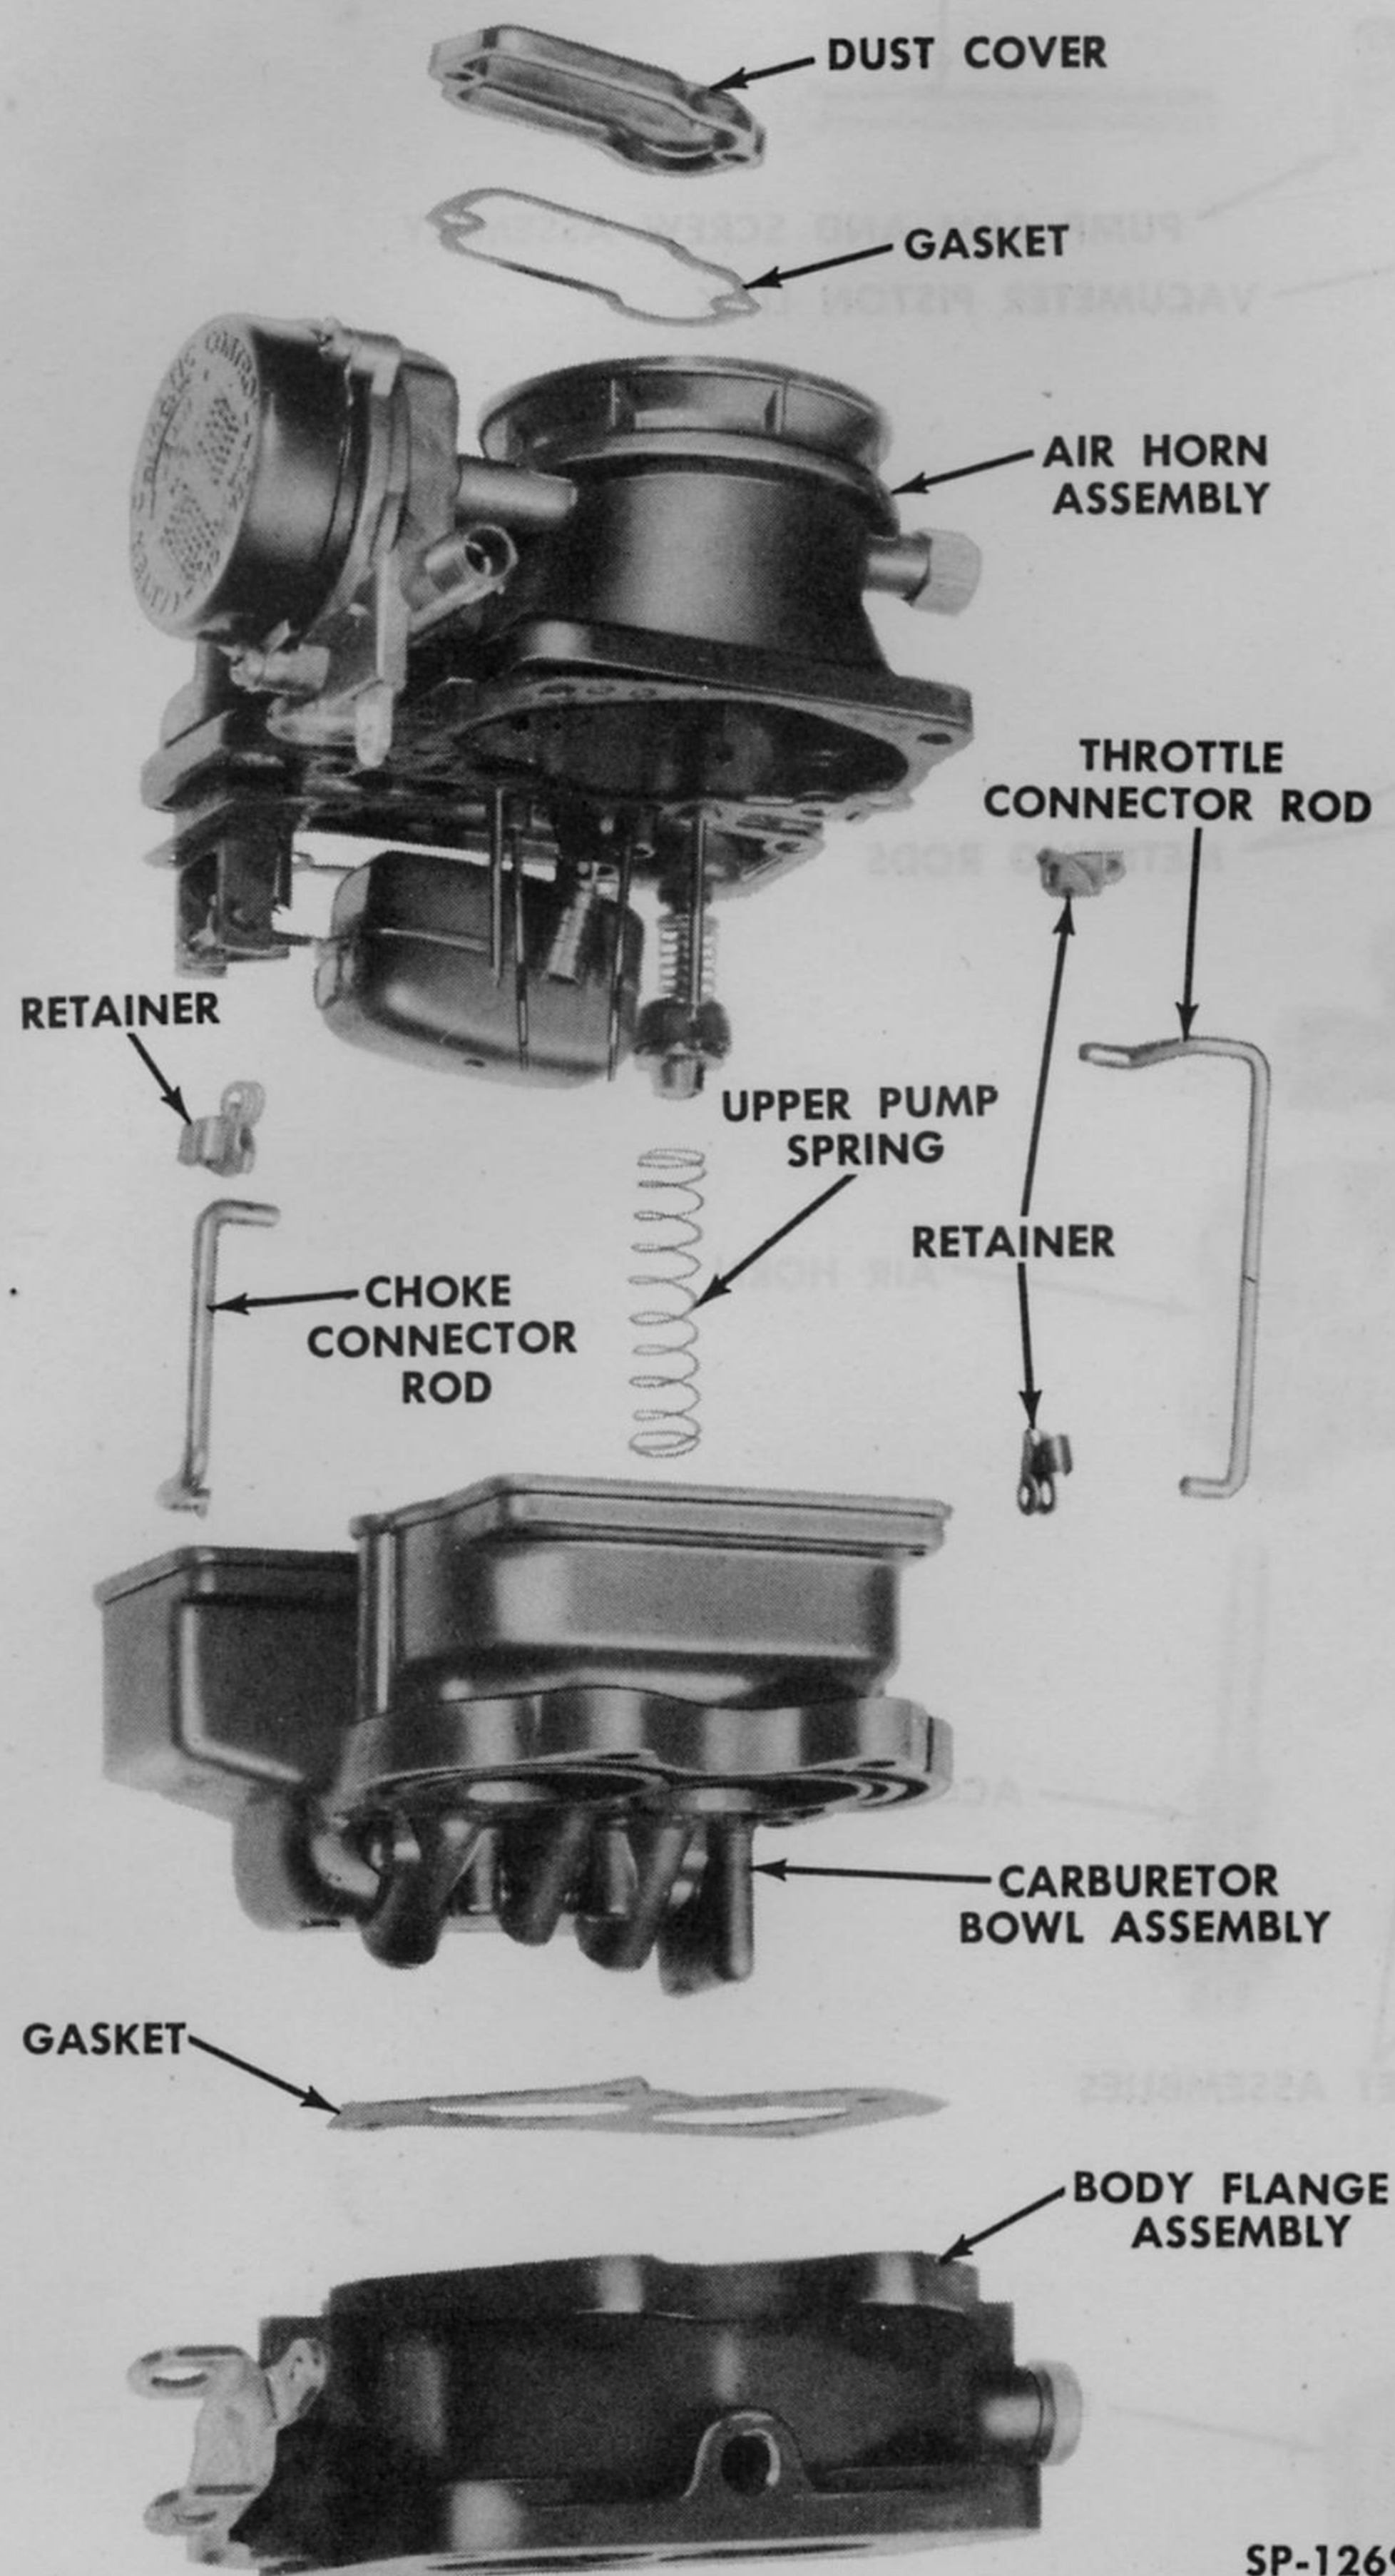

Fig. 123—WGD-781S and 813S Carburetor—Exploded View
a. **DISASSEMBLY.** (Fig. 123). Proceed as follows:
2. Remove Carburetor Bowl (Fig. 123). Remove the four screws and lock washers that attach the carburetor bowl to the body flange. Lift the bowl from the body flange.
4. Assemble Carburetor Bowl to Body Flange (Fig. 123). Position a new gasket on the body flange. Attach the carburetor bowl to the body flange with four screws and lock washers.
5. Assemble Air Horn to Carburetor Bowl (Fig. 123). Carefully position the air horn on the bowl, making sure the metering rods enter the metering rod jets in the bowl. Install and tighten the eight